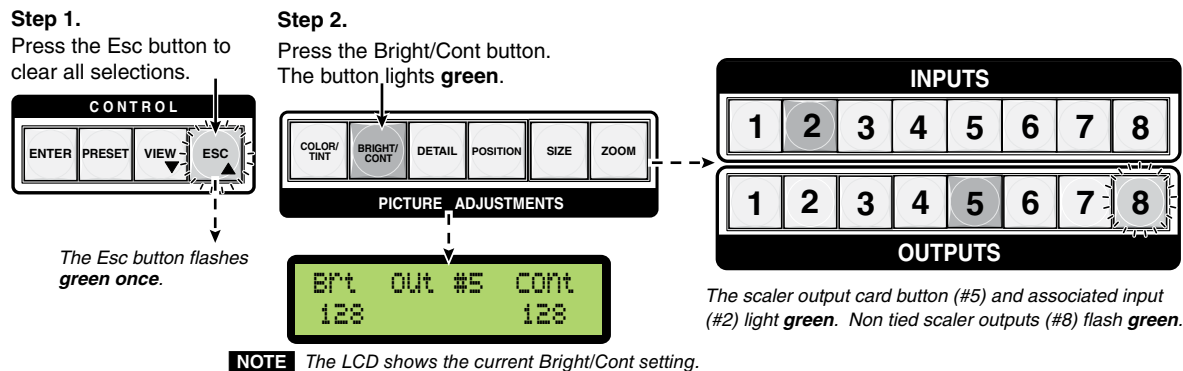

Figure 3-34 — Steps 1 and 2 for adjusting brightness and contrast
2. Press and release the Bright/Cont adjustment button. The output buttons for scaler cards (outputs 3 through 8) and any associated (tied) input buttons light solid green. Untied outputs flash green. The LCD panel shows the current bright/cont setting (see figure 3-34) for that lit output.